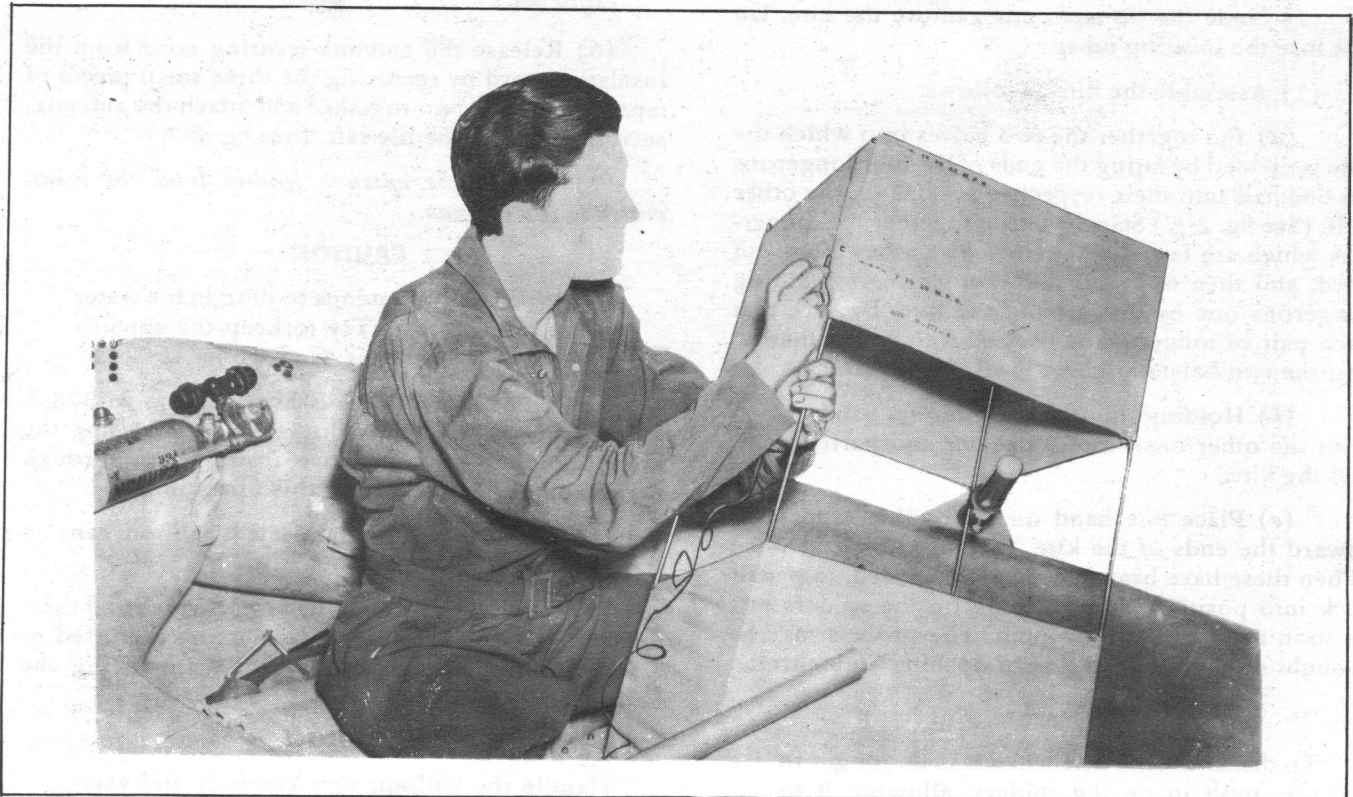

Figure 2-6. Kite M-357-A—Attachment of Antenna Wire
(3) After assembling the kite, estimate the wind velocity.
(4) There are two eyelets on the kite, one at a corner marked "15 to 40 M.P.H." and another farther in near a marking "7 to 20 M.P.H." (See fig. 2-6.) Attach the antenna-wire clasp to whichever of these two eyelets more nearly corresponds to the estimated wind velocity. If in doubt, use the eyelet indicated for low wind velocity.
(5) Exercising due caution, rise up as far as possible in the boat. Toss the kite into the air to clear the turbulent area to leeward of the operator. The kite will be found a ready flyer in winds as low as 7 miles per hour, provided only that the wind is blowing steadily. Always maintain a steady tension at the "BRAKE" sufficiently strong to prevent the kite from dropping into the water. On occasions it will be found more practicable to pay out the wire by hand. Pay out all of the 306 feet of antenna wire on the reel.